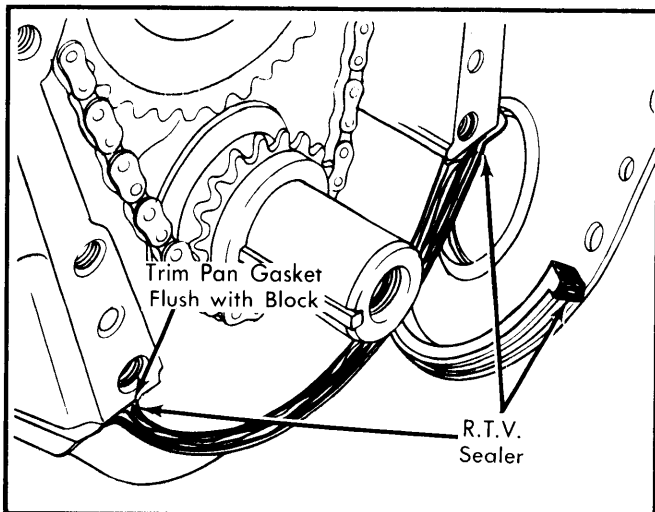
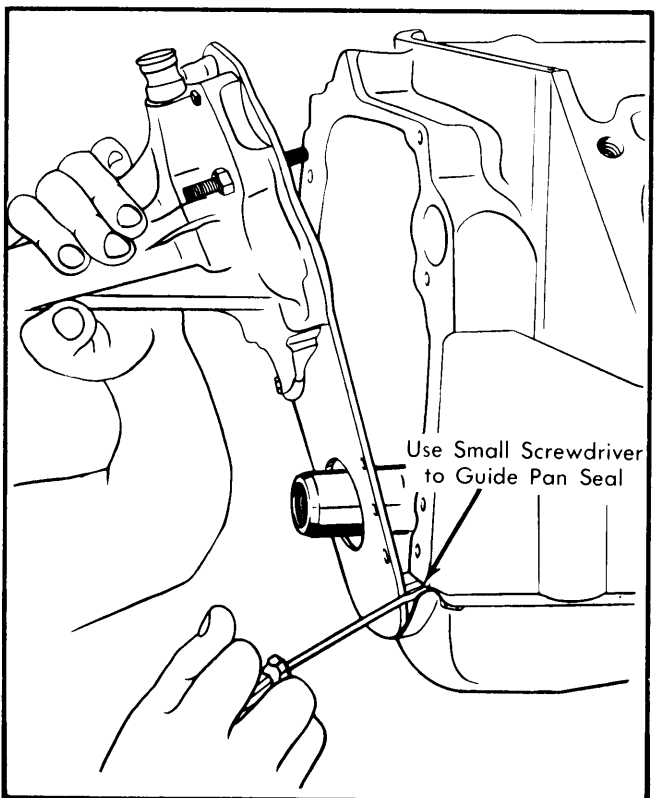

Fig. 9 Pan and Cover Seal Installation
Fig. 10 Front Cover Installation
2) Apply suitable sealer at junction of block, pan and front cover. See Fig. 9. Install front cover, pressing downward to compress seal. Rotate cover left and right to guide pan seal into cavity using a small screwdriver. See Fig. 10. Install dowel pins (chamfered end first), timing indicator and water pump. Lube seal surface and install harmonic balancer. Install brackets, all pulleys, fan and belts. Install radiator and bypass hoses. Fill cooling system.